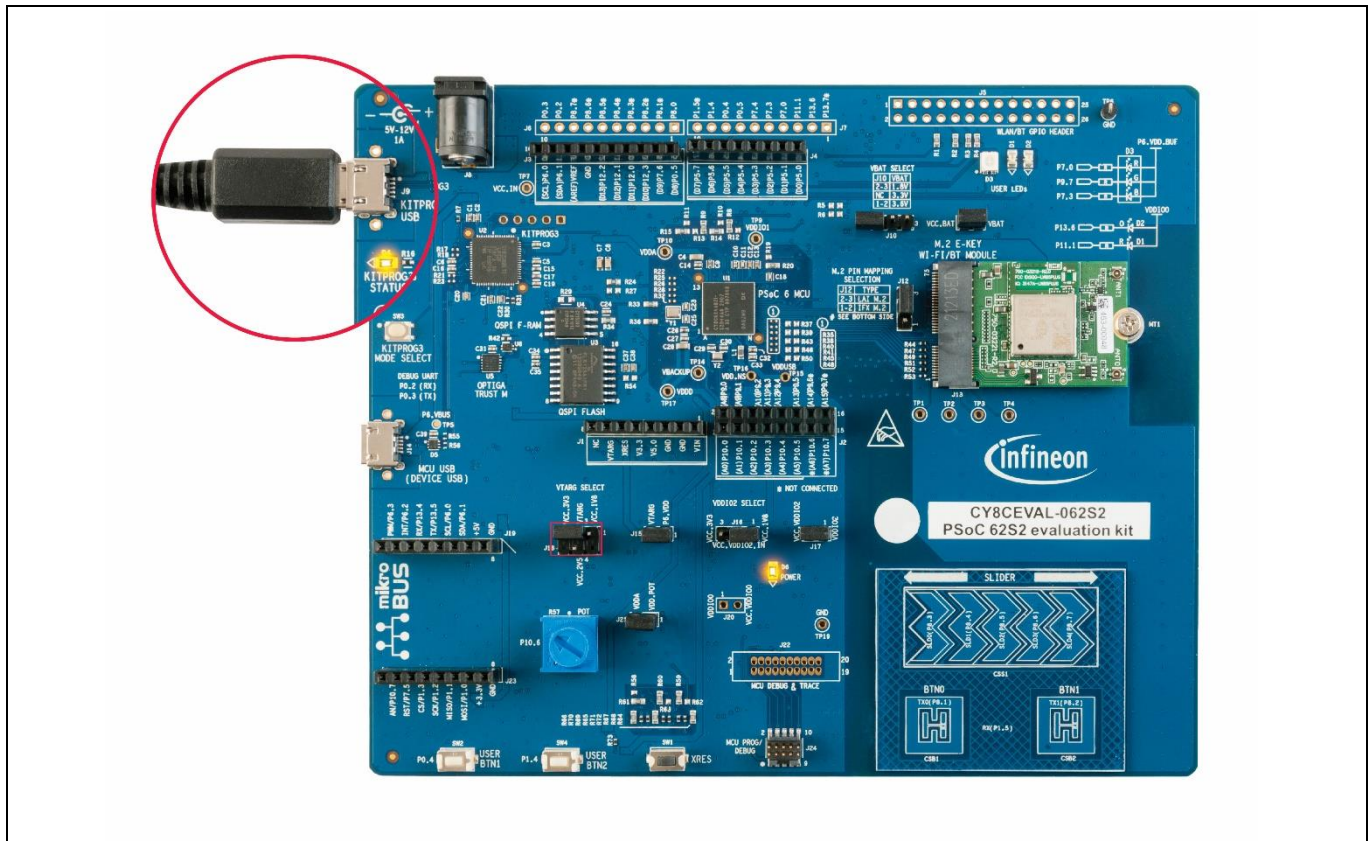

Figure 10 Connect USB cable to USB connector on the board
1. Connect the board to the PC using the provided USB cable through the KitProg3 USB connector, as shown in **Figure 10**. It enumerates as a USB Composite Device if you are connecting it to your PC for the first time.